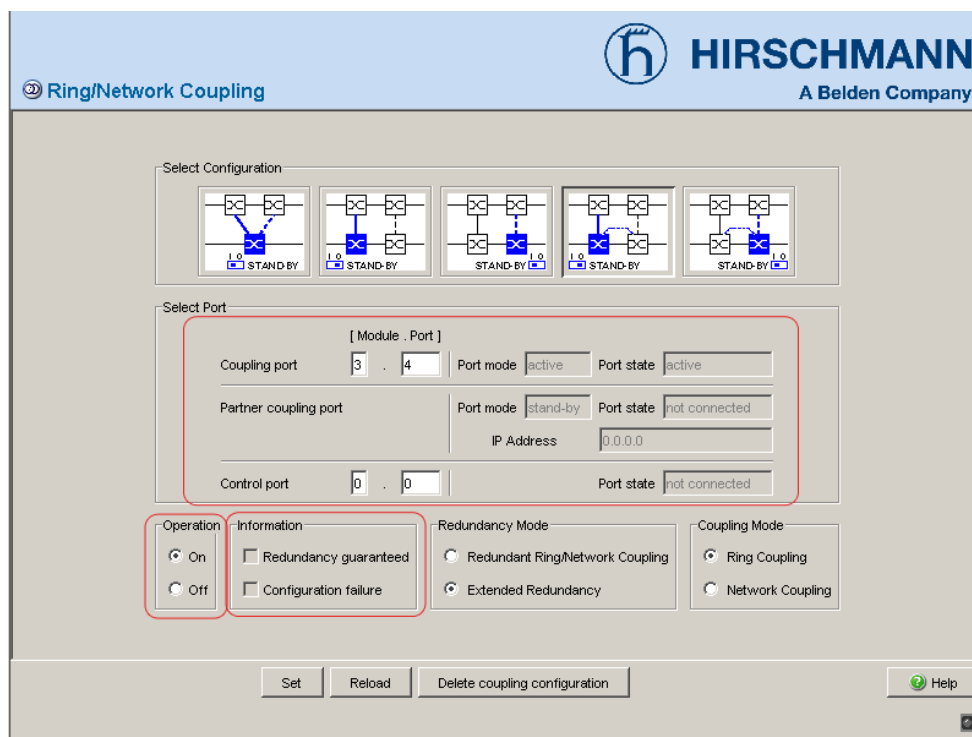

Fig. 27: Selecting the port and switching on/off the function
- Select the coupling port (see Fig. 27), (see Table 10 on page 50).
- Select the control port (see Fig. 27), (see Table 10 on page 50).
- Switch on the function In the frame "Operation" (see Fig. 27).
The displays in the "Select port" frame mean (see Fig. 27):
The displays in the "Information" frame mean (see Fig. 27):
- Select the coupling port (see Fig. 27), (see Table 10 on page 50). With "Coupling port" you specify at which port you are connecting the network segments. If the STANDBY DIP switch is ON, connect the main line to the coupling port.